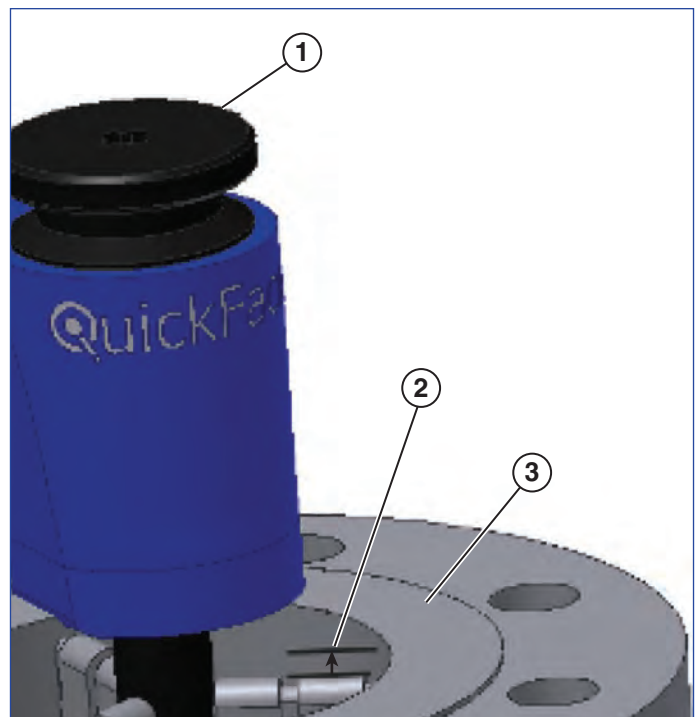

Figure 10
1. Install the QuickFace into the work piece with the top of the locator, or locator extension if used, about 1/8 in. (3 mm) below the flange face (*see Figure 10*). Turn the mandrel locking knob clockwise to tighten the locators. Slightly rock the QuickFace back and forth while tightening to make sure it is firmly seated in the work piece. If the QuickFace mandrel cannot be tightened firmly by hand, insert a ratchet wrench into the end of the mandrel locking knob. **DO NOT OVERTIGHTEN THE MANDREL LOCKING KNOB OR DAMAGE CAN OCCUR!** The mandrel is tight enough when the QuickFace does not move when lifting up on the end of the gearbox housing.